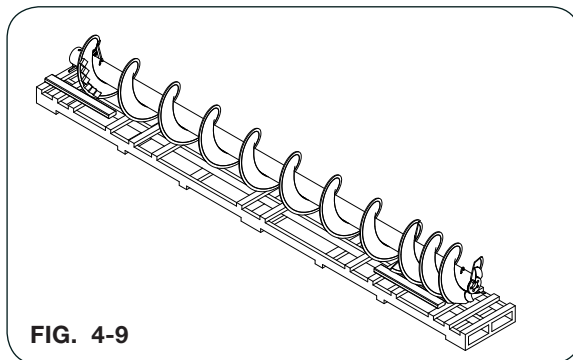

FIG. 4-9
4. The replacement auger is factory balanced. Remove entire auger from shipping crate and secure from rolling. The lower auger assembly is pictured in FIG. 4-9 for reference.